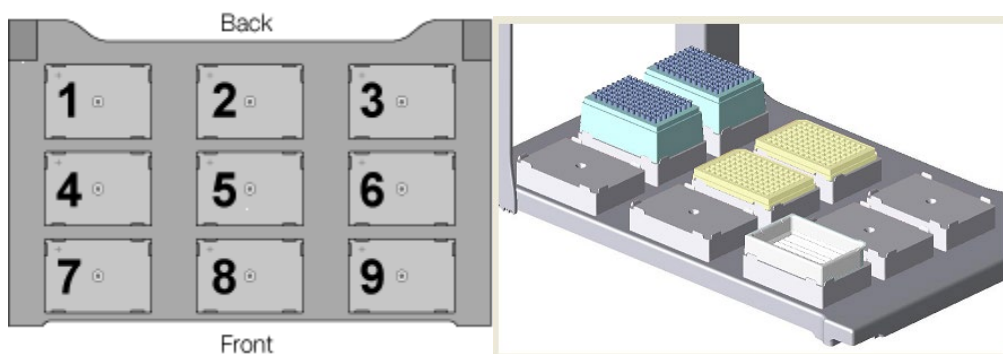

Figure 1 – Agilent Bravo Liquid Handler Deck Positions
1.	<p>Ensure the following items are provisioned to the robot (see Figure 1):</p> <ul style="list-style-type: none"> • Position 1: A box of Agilent disposable tips. A full box or a half-consumed box of tips may be used. • Position 2: The amplification plate, unsealed and in a plate holder. • Position 4: A tip box for used tips. This box must be empty or half empty. An empty box may only be used for 2 plates. • Position 5: A new 96-well plate with a CE daughter plate barcode on the side. • Position 9: A reagent trough with wells containing sufficient volume of the appropriate LIZ Formamide.